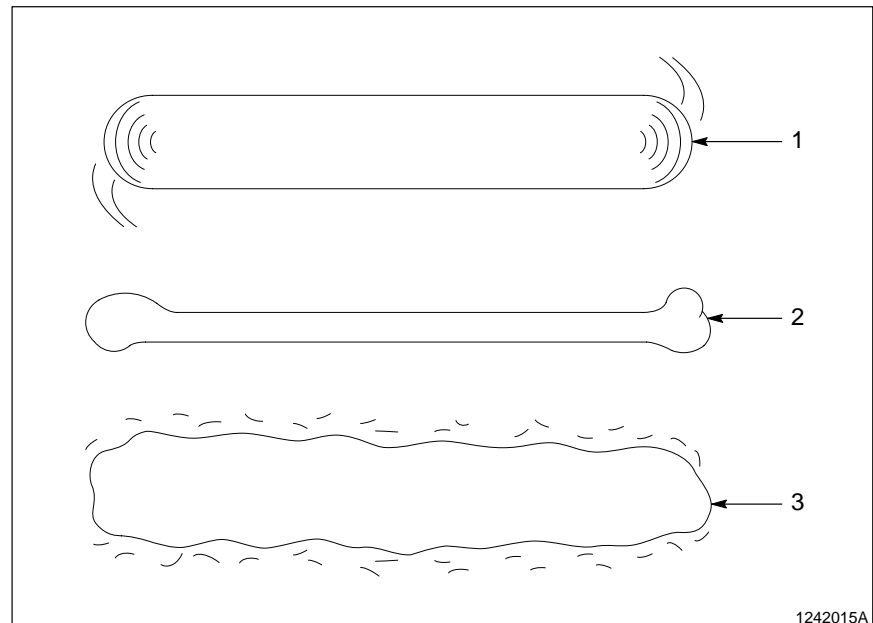

Fig. 6-10 Unacceptable Film Patterns
The applicator may require adjustment for optimum response times. The number of spring washers and the preload screw tension can be adjusted to yield the desired response time. Removing spring washers and increasing the preload screw tension shortens response times. Adding spring washers and loosening the preload screw tension lengthens response times. See Figures 6-10 to 6-12.
2. Look at the film pattern to see if it is acceptable. See Figure 6-10 and refer to the following guidelines for examples of unacceptable patterns.
- If the monofilament pattern is either not filling in areas or has stringers at the pattern end (1), air-assist pressure spikes are occurring. Lower the air assist pressure slightly or lower the Z height. Change to a larger nozzle, increase the fluid pressure slightly, or run at a slower velocity (more material flow is required to fill in the pattern).
- If the bead has large ends (2), the fluid flow is too large. Run the bead coats at a higher velocity, set the bead pressure slightly lower or use a smaller nozzle.
- If the swirl pattern has splatter or very poor edge definition (3), check the nozzle seal for proper seating. If material weeps out of the air assist holes, splatter and poor edge definition occurs. Splatter is also caused by too much material flow and/or too much air assist pressure. Adjust pressures to achieve optimal patterns.